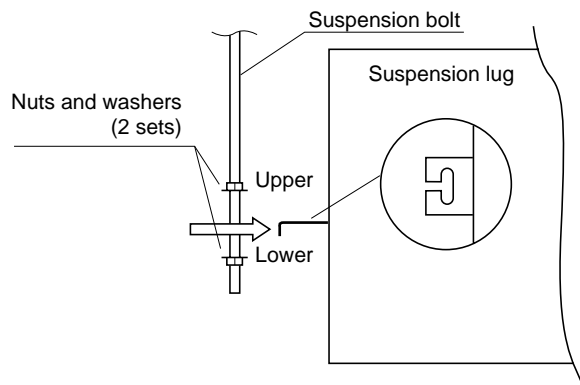

Fig. 3-85
- (3) Thread the 2 hexagonal nuts and washers (field supply) onto the 4 suspension bolts as shown in Figs. 3-85 and 3-86. Be sure to use 2 sets of nuts and washer, otherwise the unit may fall off suspension lugs in the event of an earthquake.